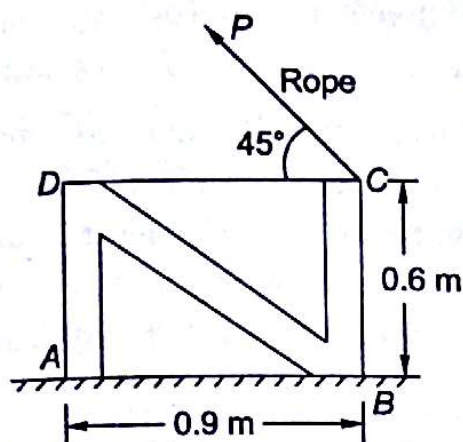

Fig. 6.19
- 6.1 A packing crate of mass 45 kg is pulled by a rope as shown in Fig. 6.19. If the coefficient of friction between crate and rope is 0.3, determine (a) the magnitude of pull P required to move the crate, (b) whether the crate will slide or tip.